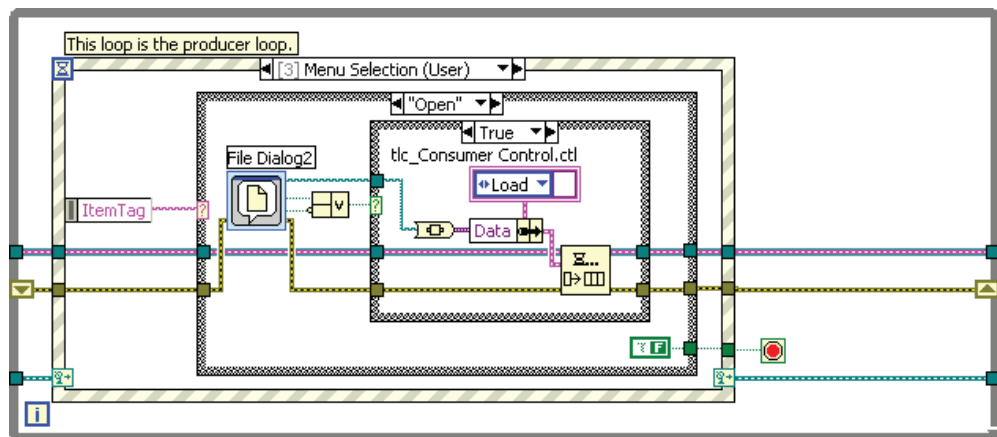

Figure 7-26. Producer Open Case True Case
1. Create the Open case in the Menu Selection (User) event case of the producer loop, as shown in Figure 7-26. It is easiest to create the Open